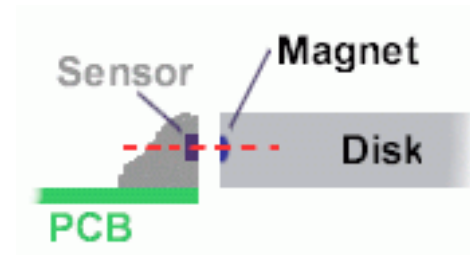

Figure 3 Ensure correct alignment of magnet disk and sensor.
- Take care that the magnets in the disk are approximately in the same height as the sensor, see figure 3 on page 9.